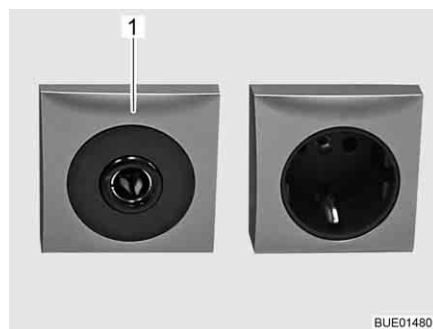

Fig. 84 Socket 12 V/10 A
- ▷ Only connect devices with a maximum of 10 A to the sockets (Fig. 84,1) of the 12 V power supply.